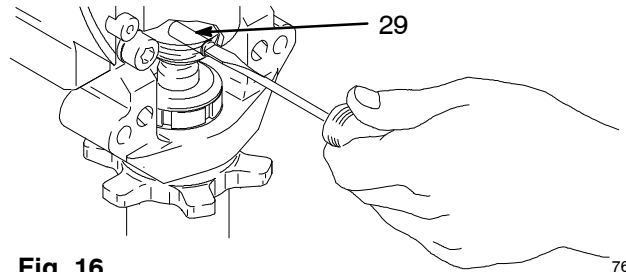

Fig. 16
5. Fig. 16. Use screwdriver: push retaining spring up and push out pin (29).
2. Fig. 16. Push pin (29) into hole. And push retaining spring into groove all the way around connecting rod.